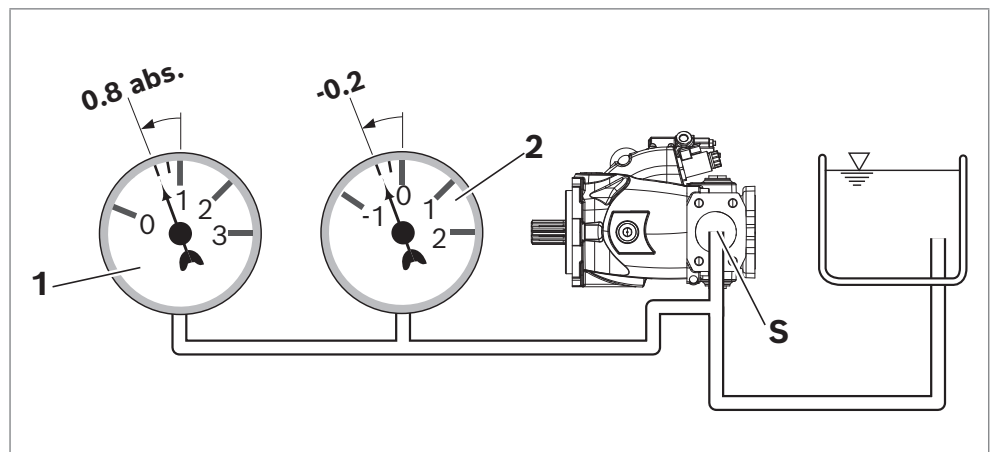

Fig. 6: Suction pressure
- ▶ Make sure that a minimum suction pressure of 0.8 bar absolute is present at port "S" during operation for all installation positions and installation locations of the axial piston pump; see Fig. 6. See data sheet for other pressure values.